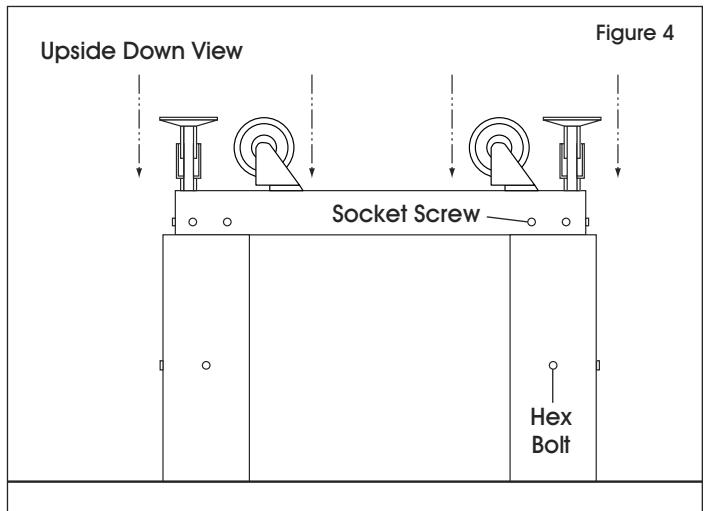

Figure 4
4. Screw feet into threaded holes provided on bottom of the shelf. Insert casters into nylon insert next to feet. (See Figure 4)